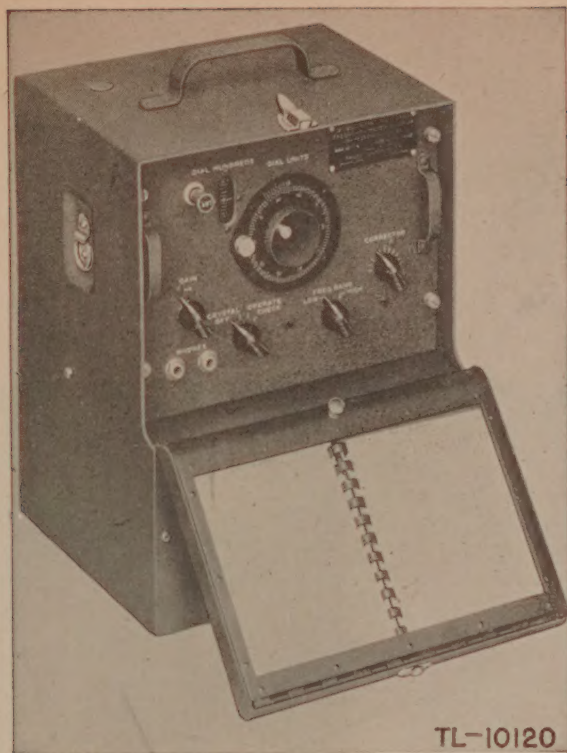
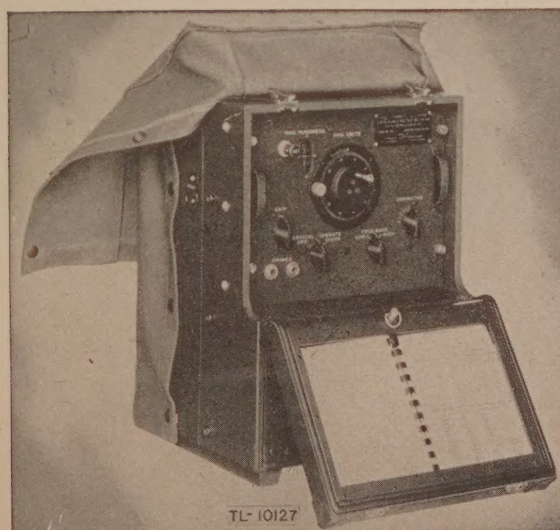

Figure 1. Frequency Meter BC-221-(G), in metal cabinet.
Figure 2. Frequency Meter BC-221-(G), in wooden cabinet.
b. The principal component of the set is Frequency Meter BC-221-(&), a heterodyne-type frequency meter, which is supplied in either of two types of cabinet: a black wrinkle-finished aluminum-alloy cabinet (fig. 1), or an olive-drab finished wooden cabinet. (See fig. 2.) The upper and largest compartment of the cabinet contains the frequency meter chassis and sometimes some of the spare parts. The next smaller compartment, at the bottom rear, contains the batteries. The smallest compartment, at the bottom front, contains either spare parts or the headset. (See figs. 19, 20, 21, and 25 for representative views.) A carrying handle and one or two snap latches are mounted on the top surface of the cabinet. Two small rings to which carrying Strap ST-19-A can be hooked, are mounted at the sides of the cabinet. The BC-221-Q, BC-221-AA, BC-221-AC, BC-221-AE, BC-221-AF, BC-221-AG, BC-221-AH, BC-221-AJ, BC-221-AK, and BC-221-AL frequency meters are normally supplied with the wooden cabinet. Some BC-221-Q and BC-221-AA frequency